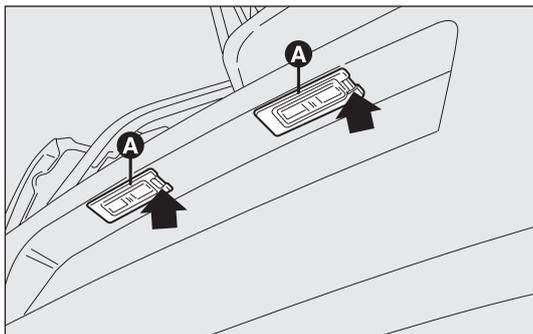

fig. 173
- manipulate the point shown by the arrow and remove the lens unit A-fig. 173;